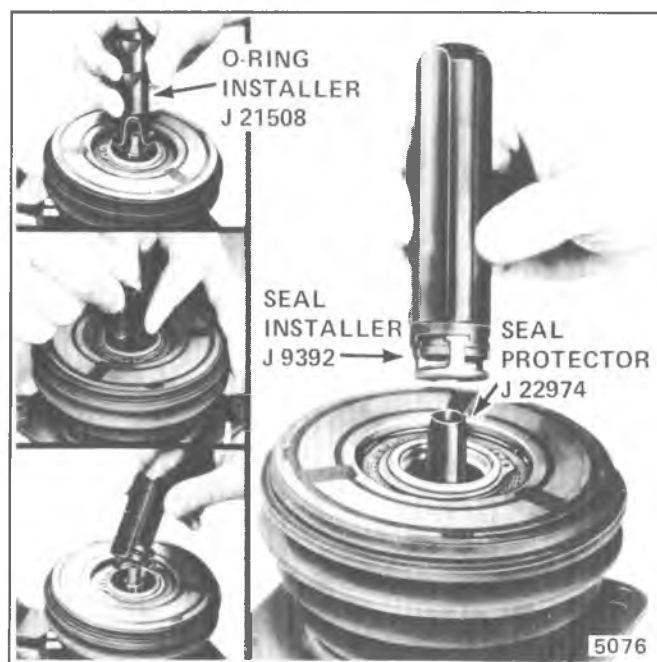

Fig. 1D-23 Replacing A-6 Seal and O-Ring
**SEALS SHOULD NOT BE REUSED. ALWAYS USE A NEW SEAL KIT ON REBUILD** (see Fig. 1D-20). Be extremely careful that the face of the Seal to be installed is not scratched or damaged in any way. Make sure that the Seal Seat and Seal are free of lint and dirt that could damage the seal surface or prevent sealing.